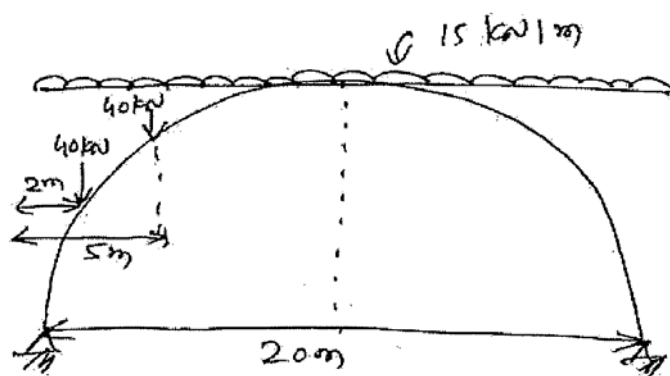

fig.5
- b) A symmetrical 3 hinged parabolic arch as shown in fig.5 has a span of 20m. It carries UDL of intensity 15 kN/m over the entire span & two point loads of 40 kN each at 2m & 5m from left support. Compute the reactions, Horizontal Thrust & Normal Thrust at a section 4m from left end take central rise as 4m. [6]